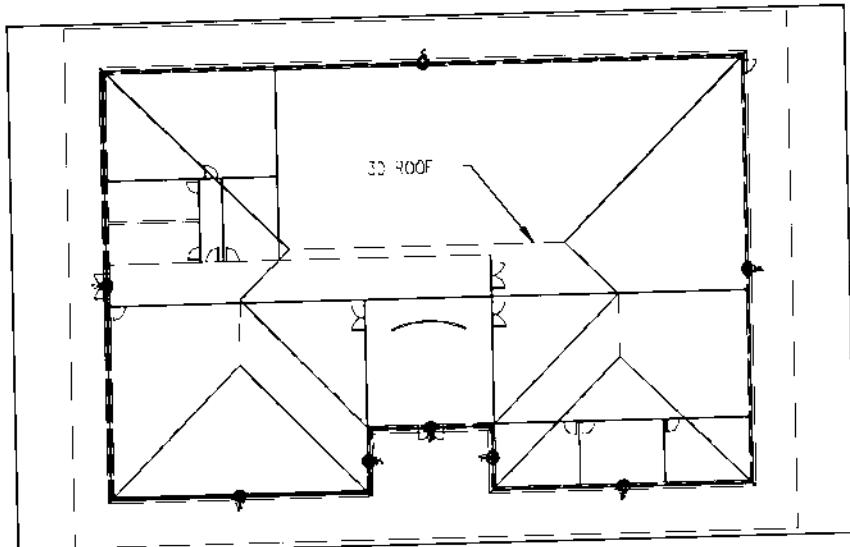

Figure 10
8. The roof command assigns a roof symbol containing the roof information to each roof plane as shown in Figure 10.